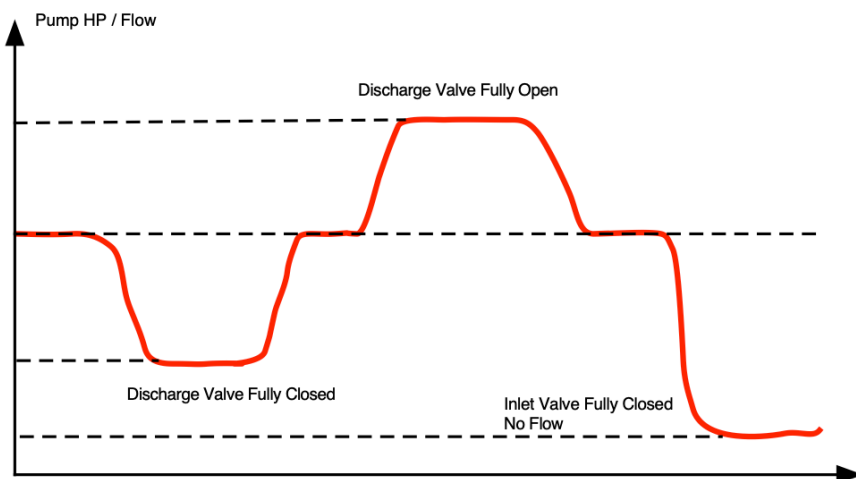

Figure 2 Changes in Power from Steady State with Valve movement
Pump Power (HP) requirements will increase with an increasing delivered flow rate. Figure 2 shows how pump Power HP changes with flow.